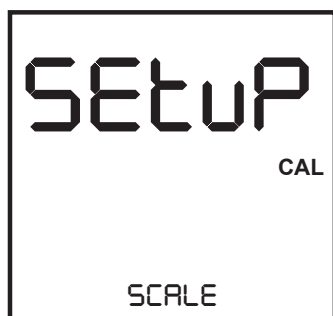

Figure No. 11
1. With the power off, remove the two (2) screws from the left end cap (as viewed from the front of the MV1) and remove the end cap.
2. Locate the calibration switch (access is through a hole near in the side panel). See Figure No. 11.